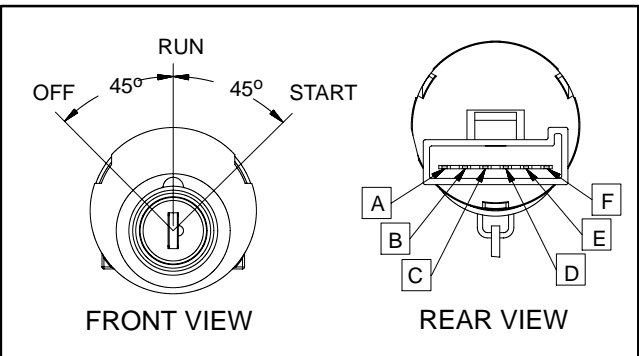

Figure 18
3. With the use of a multimeter (ohms setting), the switch functions may be tested to determine whether continuity exists between the various terminals for each switch position. The ignition switch terminals are marked as shown in Figure 18. The circuitry of this switch is shown in the chart below. Verify continuity between switch terminals.